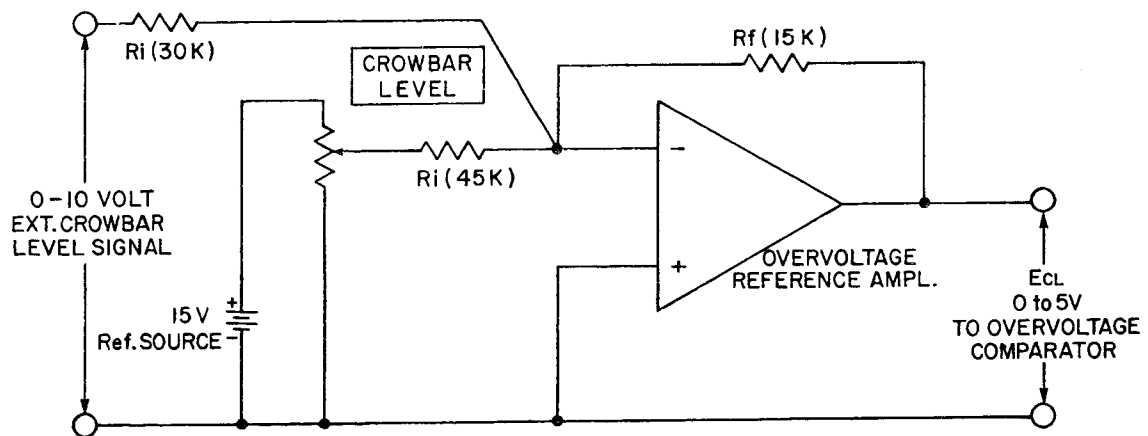

FIG. 4-5 GENERATION OF THE INTERNAL CROWBAR LEVEL SIGNAL.
- 4-14 The crowbar level may be adjusted locally by the provided CROWBAR LEVEL front panel control, or it may be externally controlled by means of a 0–10 volt d-c signal. For internal control, the crowbar level is produced by the OVERVOLTAGE REFERENCE AMPL. and the internal REFERENCE SOURCE (SEE FIG. 4-5).
- 4-15 An operational amplifier (OVERVOLTAGE REFERENCE AMPL.) is used in an inverting configuration, as shown in FIG. 4-5. The output equation for this circuit is:  $E_{CL} = E_r (R_f/R_i)$ . Inserting circuit values from FIG. 4-5: